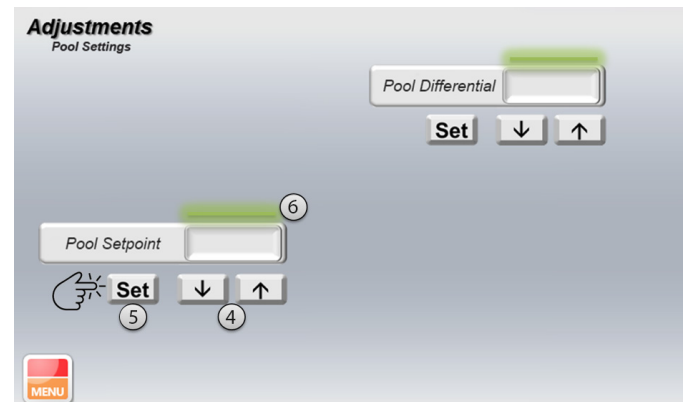

Figure 17. Pool Setpoint Adjustment
9. Use the UP and DOWN arrows to adjust the Pool Setpoint. See Figure 17.